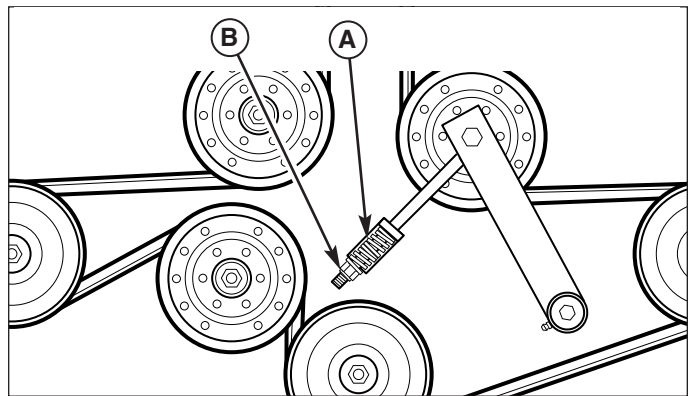

Figure 37. Mower PTO Belt
3. Loosen the spring compression nut (B, Figure 37) to release the belt tension.
6. Install the drive belt on the PTO pulley, the spindle pulleys and idler pulleys. Tighten the spring compression nut (B, Figure 37) until the belt tension spring (A, Figure 37) is compressed to 1-5/8" (4,12cm) long.